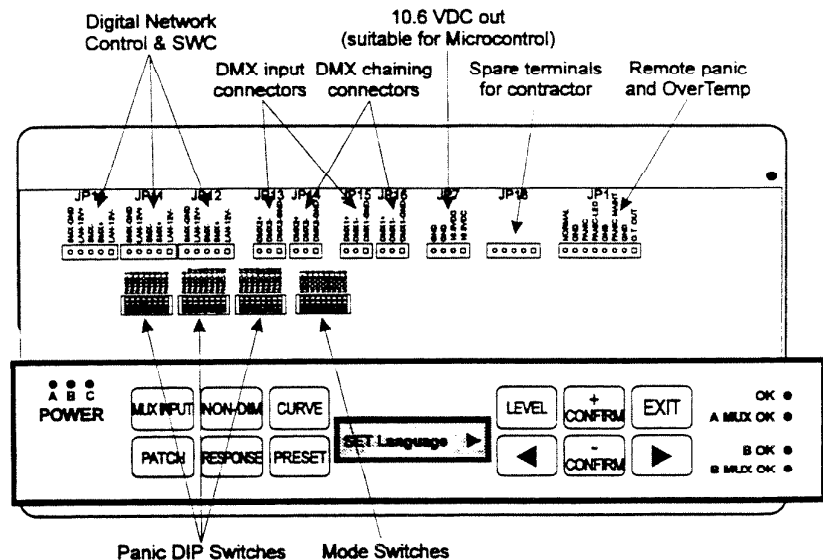
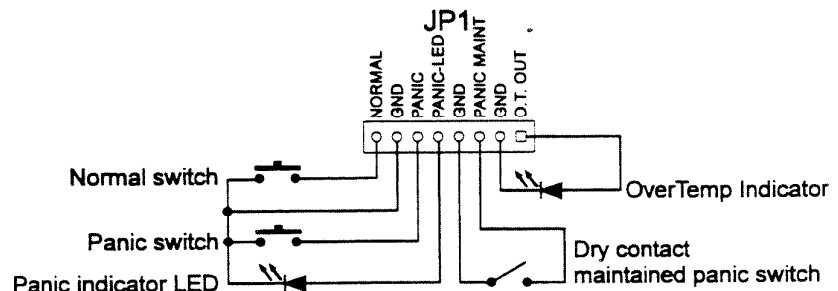

Figure 6. Control Terminal Locations
Figure 7. Panic & OverTemp Wiring
Panic wires are connected to PANIC terminals on JP1 of the distribution board (see Figure 6 for terminal locations). Wiring instructions are included on the riser diagram in your system drawing package. If you do not have a system drawing package, wire the PANIC and NORMAL switches as shown in Figure 7. You can use the PANIC/NORMAL terminals and momentary contact switches to activate panic, and/or use the PANIC MAINT terminal and a maintained dry contact switch or relay.
OverTemp wires are connected between the O.T OUT and GND terminals on JP1 of the distribution board board (see Figure 6 for terminal locations). Wiring instructions are included on the riser diagram in your system drawing package. If you do not have a system drawing package, wire the OverTemp indicator as shown in Figure 7.
Digital Network Control wiring from stations such as Outlook is connected to JP10 through JP12 on the distribution board board (see Figure 6 for terminal locations). Wiring instructions and appropriate wire gauge sizes are provided on the system riser diagram. DO NOT land two sets of wires on any control terminal unless shown in the riser diagram. Most control station runs are daisy-chained, and must not be paralleled at the distribution board. All control wiring should enter at the lower left-hand corner of cabinet.
The two types of connections provided in Strand Lighting equipment for DMX512 dimmer control signals are the XLR style connector and terminal blocks. Unless otherwise specified, cabinets use terminal block connections and control consoles use XLR style connectors (see Table 2). DMX512 connections in Digital Environ cabinets are made on JP15 and JP16 (Mux A connections) or JP13 and JP14 (Mux B connections). Please see Figure 6 for terminal locations on the distribution board.
Select panic for a dimmer using DIP switches located on the distribution board (see Figure 6). Each cabinet has 24 panic switches (three eight-pole DIP switches). Dimmers with switches in the up (ON) position are switched ON when you activate panic, regardless of their control station settings. Dimmers with panic select switches in the down (OFF) position are not affected when panic is activated. Cabinets are shipped with all switches in the up (ON) position.